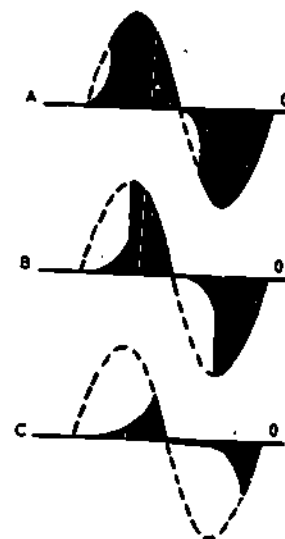

Figure 8-16. Full-Wave Magnetic Amplifier
8-39. In the half-wave magnetic amplifier, DC power is delivered to the load for only a portion of one alternation of the input AC. If an alternating output is required, the magnetic amplifier of figure 8-16 can be employed. This circuit is called a full-wave magnetic amplifier because power is delivered to the output during both alternations of the input. The saturable reactor used in the full-wave amplifier is center tapped and the amplifier uses two diodes to ensure that current through the reactor load winding will always be in the same direction. As with the half-wave amplifier, changes of the control current will affect the amount of power delivered to the load as
shown by the waveforms of figure 8-16. With maximum control current (R1 at Point A), maximum load current will flow (waveform A). With R1 at point C, the waveform (C) shows that minimum power is delivered to the load.